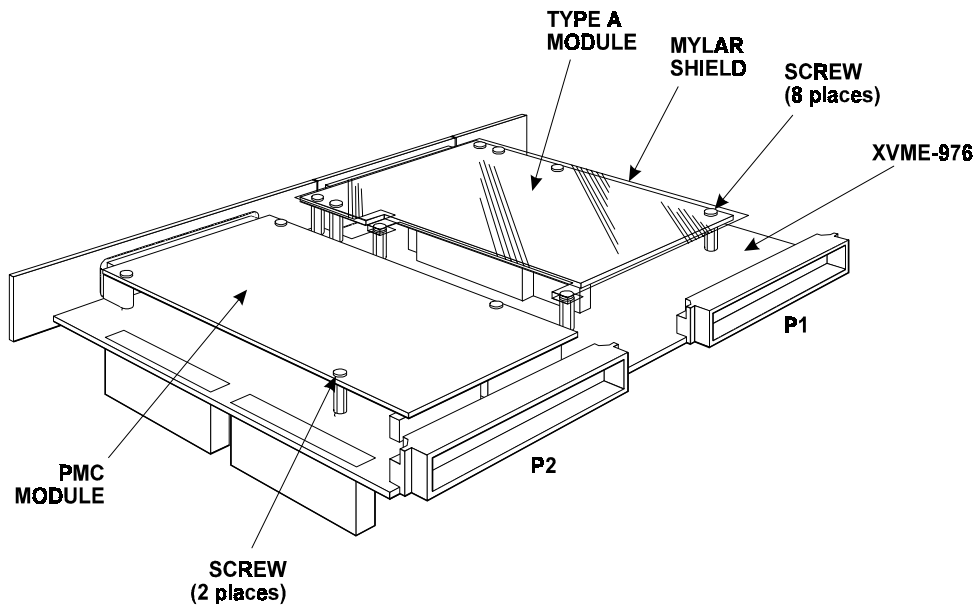

Figure 4-5. XVME-956/101 Type A Module
1. Secure the XVME-956/101 mylar insulator using nylon screws at position 4 (shown in Figure 4-5).
3. Connect the battery cable from the front panel to the appropriate connector on the XVME-956/101. Next, secure the front panel to the XVME-976 using the two screws labeled 2 in Figure 4-5.
4. Fold the mylar insulator back over the XVME-956/101 and secure it to the XVME-956/101 with the screws labeled 3 in Figure 4-5.
5. Secure the mylar insulator and front panel battery assembly using screws labeled 1 in Figure 4-5.
Figure 4-5 shows the mylar insulator and front panel assembly of the XVME-956/101 memory expansion module.
- Bits 1 and 0 are used to select 64K byte pages of larger memory devices. (See Figure 4-5.)